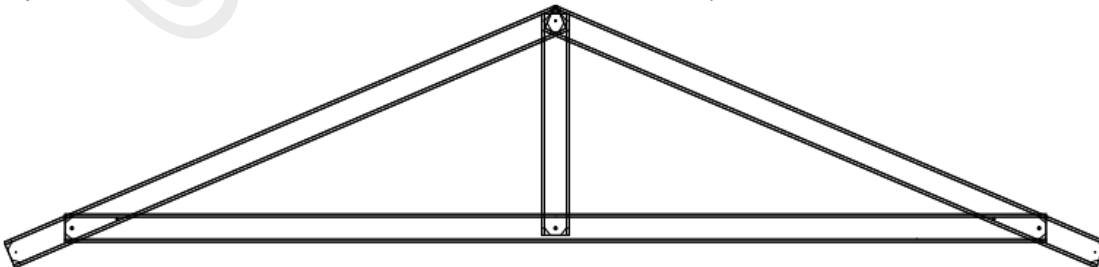

**Figure 5.7 Truncated Truss/Hip Girder Truss**
**5.7) Truncated Truss:** A truss of varying depth with a horizontal top chord. Truncated trusses are usually used to form a hip end. (Refer Fig. 5.7)